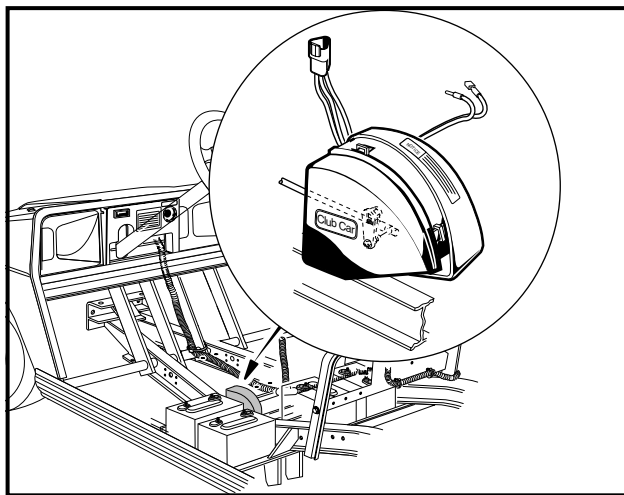

Figure 3-3 Electric Vehicle Equipped with Multi-Step Potentiometer
- Multi-step Potentiometer (**Figure 3-3, Page 3-3**).